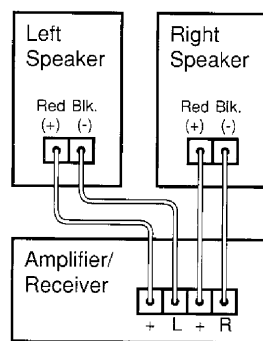

Fig. 2
5. At this point you need to identify a visual difference between the two conductors of each molded pair of speaker wire. Differentiating marks can be a different color wire (copper or "silver"); a strand of yarn in one conductor; thin, raised ribs on one part of the outer insulation; or a printed "+" marking on one of the insulators. It does not make any difference which of the two strands of wire go to (+) and (-) on the speakers and amplifier, as long as both speakers are connected identically. Push down on the button below the terminal and insert the wire, or the banana plug, through the hole (see Fig. 2).